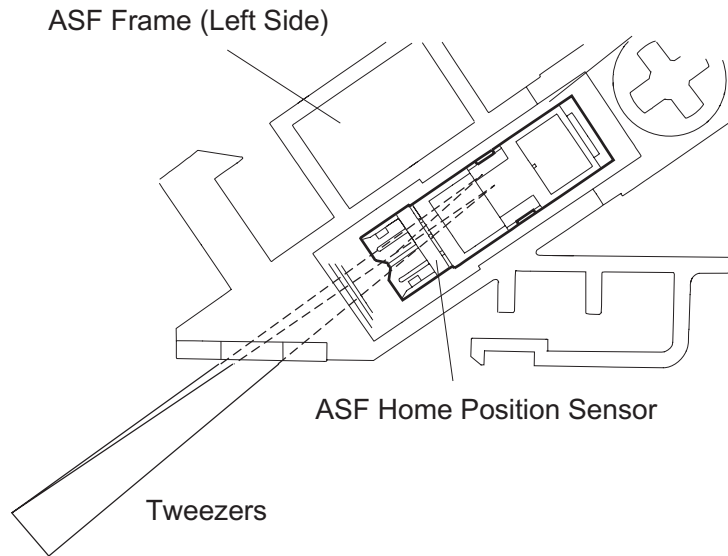

Figure 3-34. ASF HP Sensor Removal
5. Insert tweezers into the slit in the back of the ASF HP sensor, and release the clips. Then remove the ASF HP sensor. (See Figure 3-34.)